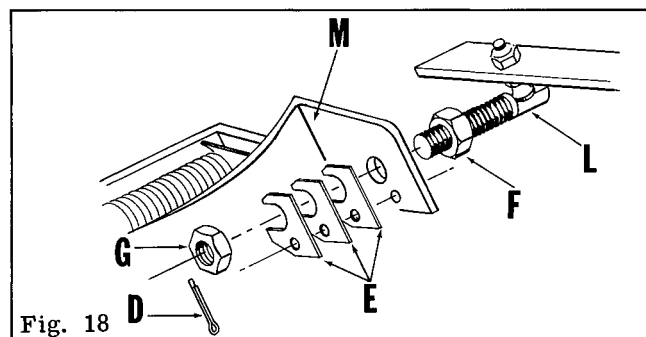

Fig. 18
2. Adjust attitude by lengthening or shortening center ball joints 'E' or 'L' in yokes 'F' or 'M', being certain that the ball joints are locked securely in the yoke upon completion of adjustment (Items 'L' and 'M' located in Fig. 18).
REAR CUTTING UNIT DRIVE (see Fig. 18 & 19)